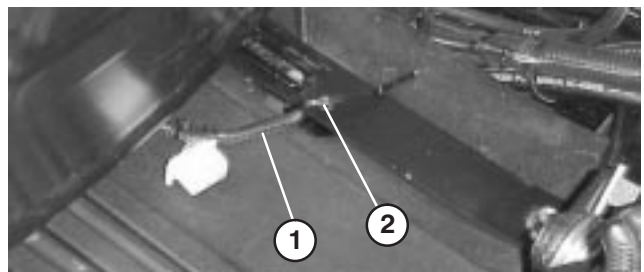

Figure 7
7. On standard seat only, slide seat all the way forward, pull wire to the right so unused connector is positioned as shown in figure 7 and secure seat switch wire to rear most hole in seat strap with a cable tie (cable tie supplied with seat kit).